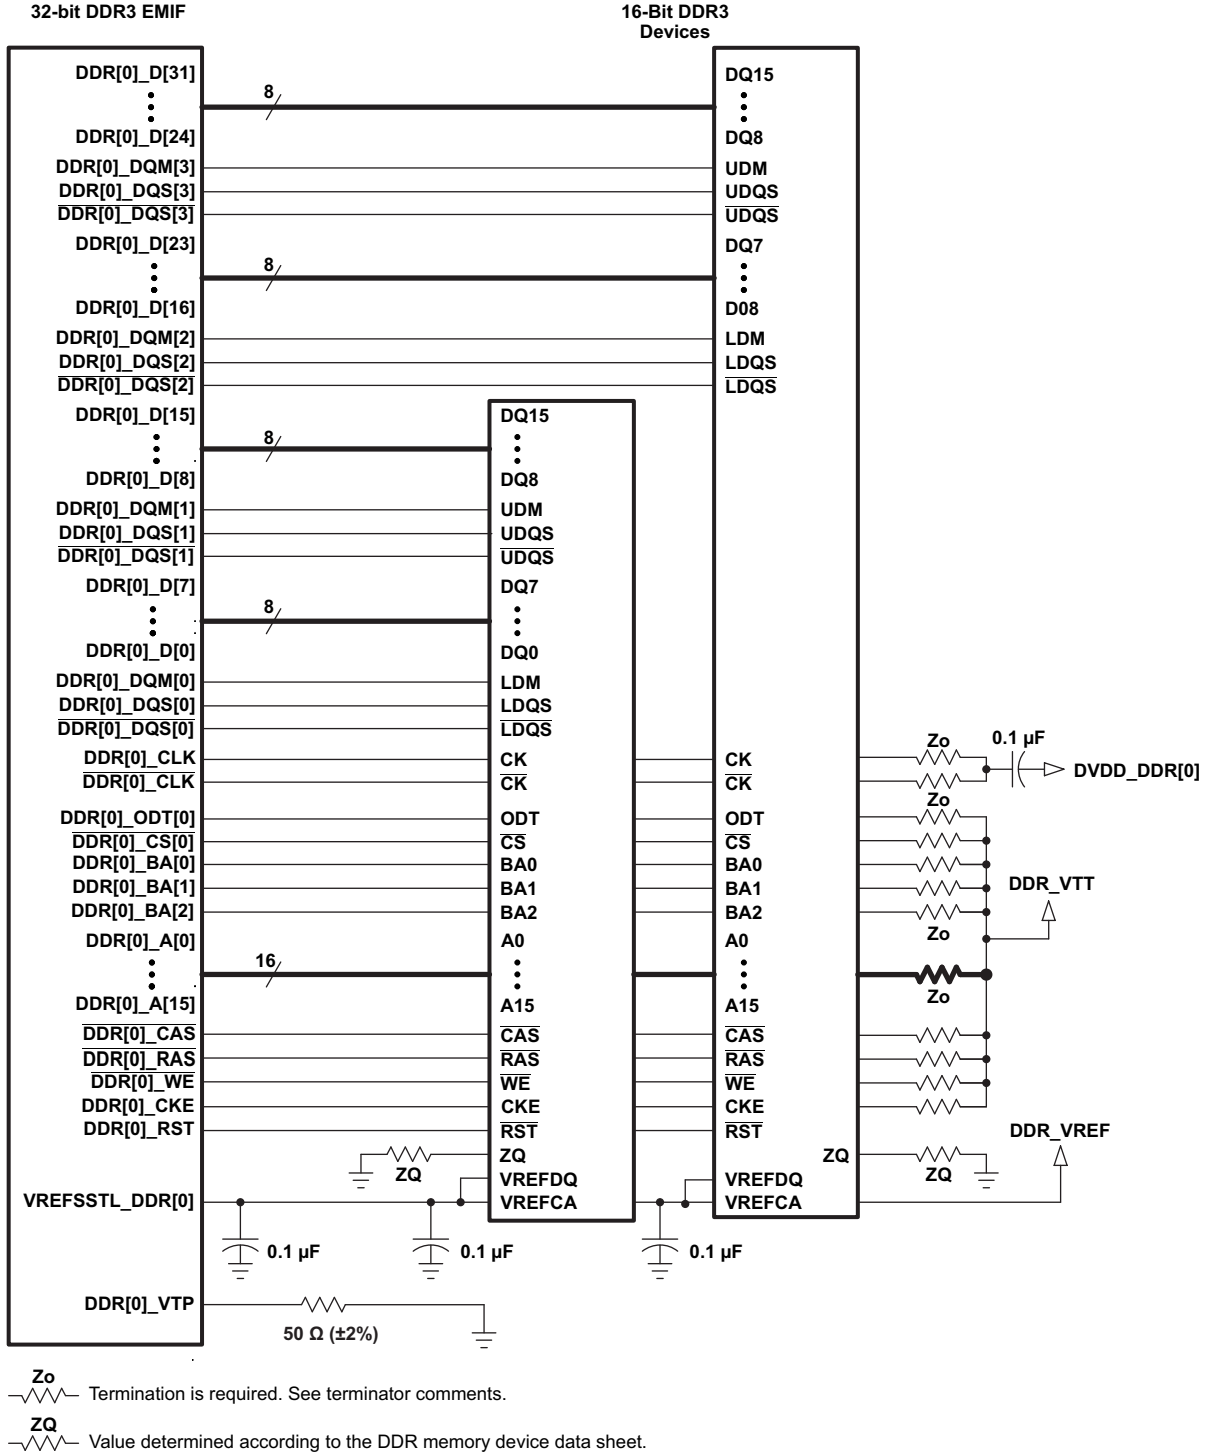
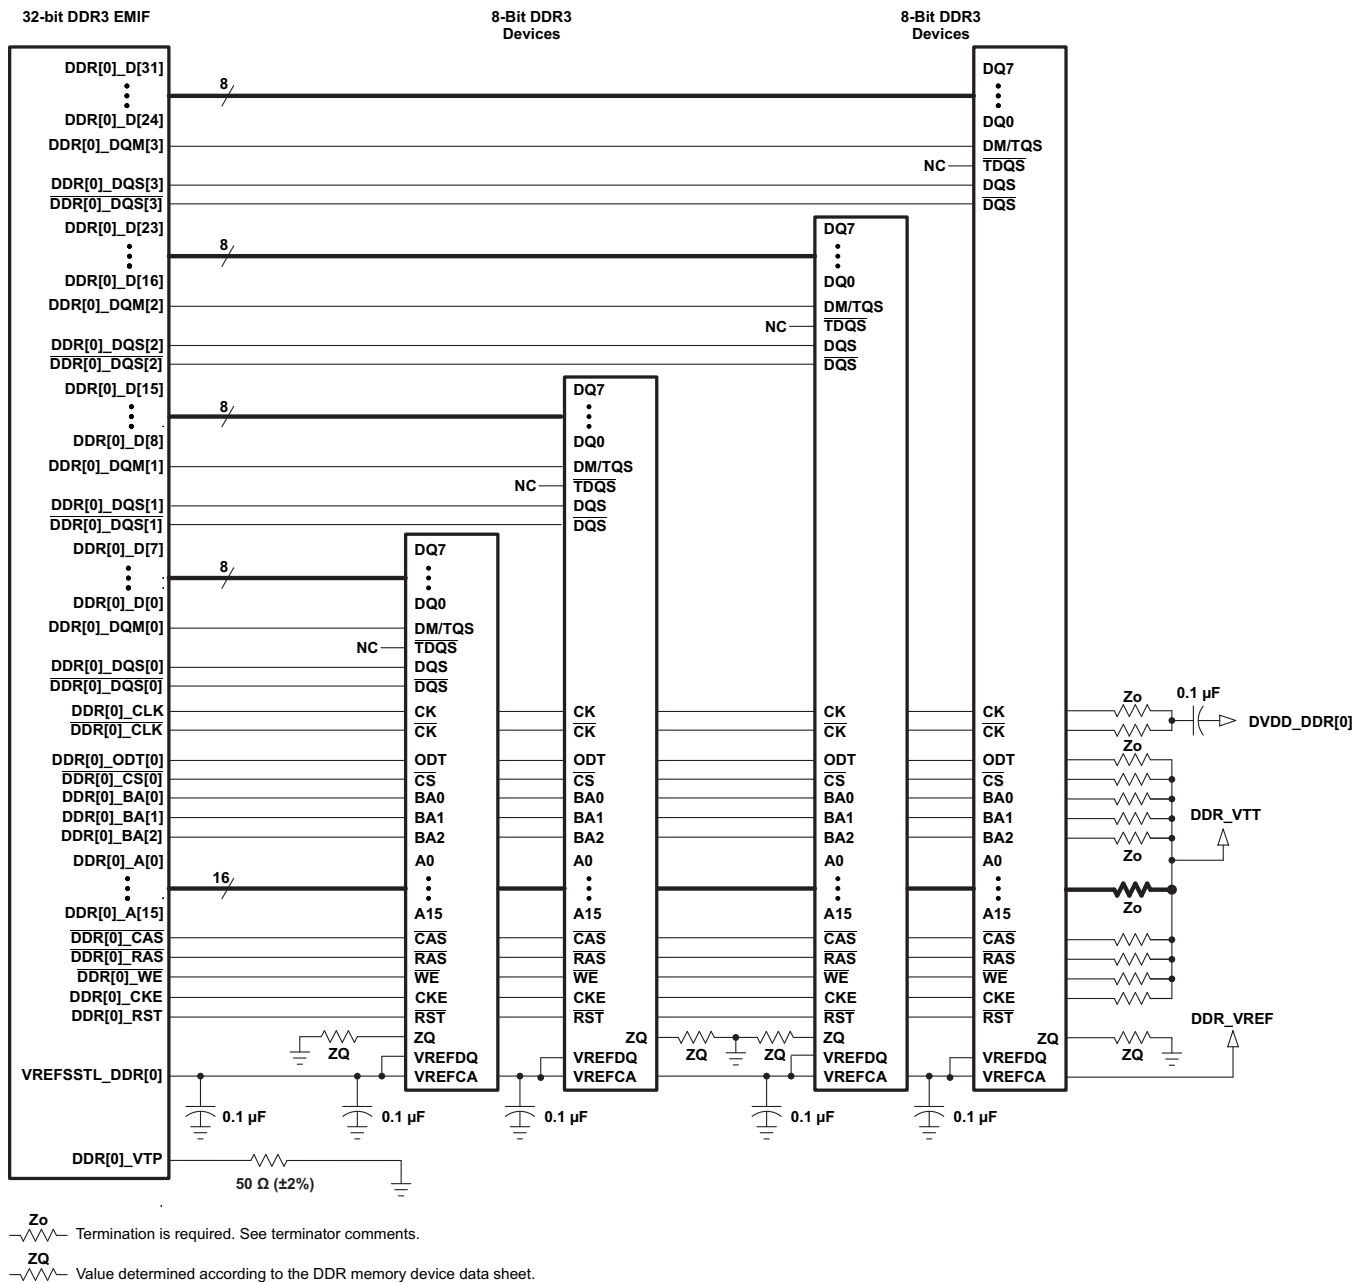

Figure 8-57. 32-Bit, One-Bank DDR3 Interface Schematic Using Two 16-Bit DDR3 Devices
Figure 8-58. 32-Bit, One-Bank DDR3 Interface Schematic Using Four 8-Bit DDR3 Devices
The DDR3 interface schematic varies, depending upon the width of the DDR3 devices used and the width of the bus used (16 or 32 bits). General connectivity is straightforward and very similar. 16-bit DDR devices look like two 8-bit devices. Figure 8-57 and Figure 8-58 show the schematic connections for 32-bit interfaces using x16 devices.
Note that the 16-bit wide interface schematic is practically identical to the 32-bit interface (see Figure 8-57 and Figure 8-58); only the high-word DDR memories are removed and the unused DQS inputs are tied off. The processor `DDR[0]_DQS[2]` and `DDR[0]_DQS[3]` pins should be pulled to the DDR supply via 1-k $\Omega$  resistors. Similarly, the `DDR[0]_DQS[2]` and `DDR[0]_DQS[3]` pins should be pulled to ground via 1-k $\Omega$  resistors.
(1) DDR3 speed grade depends on desired clock rate. Data rate is 2x the clock rate. For DDR3-800, the clock rate is 400 MHz.
(2) DDR3 devices with higher speed grades are supported; however, max clock rate will still be limited to 533 MHz as stated in Table 8-61 *Switching Characteristics Over Recommended Operating Conditions for DDR3 Memory Controller*.
(3) For valid DDR3 device configurations and device counts, see Section 8.14.3.3, Figure 8-57, and Figure 8-58.